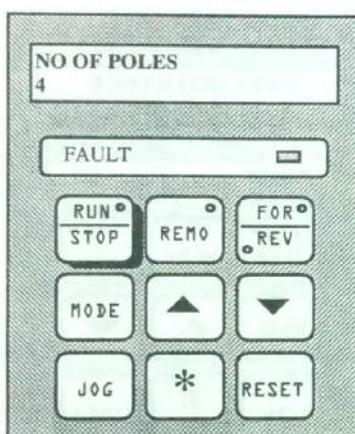

FIG. 3.15
- ☛ Hold down **RUN** key. (fig. 3.15)